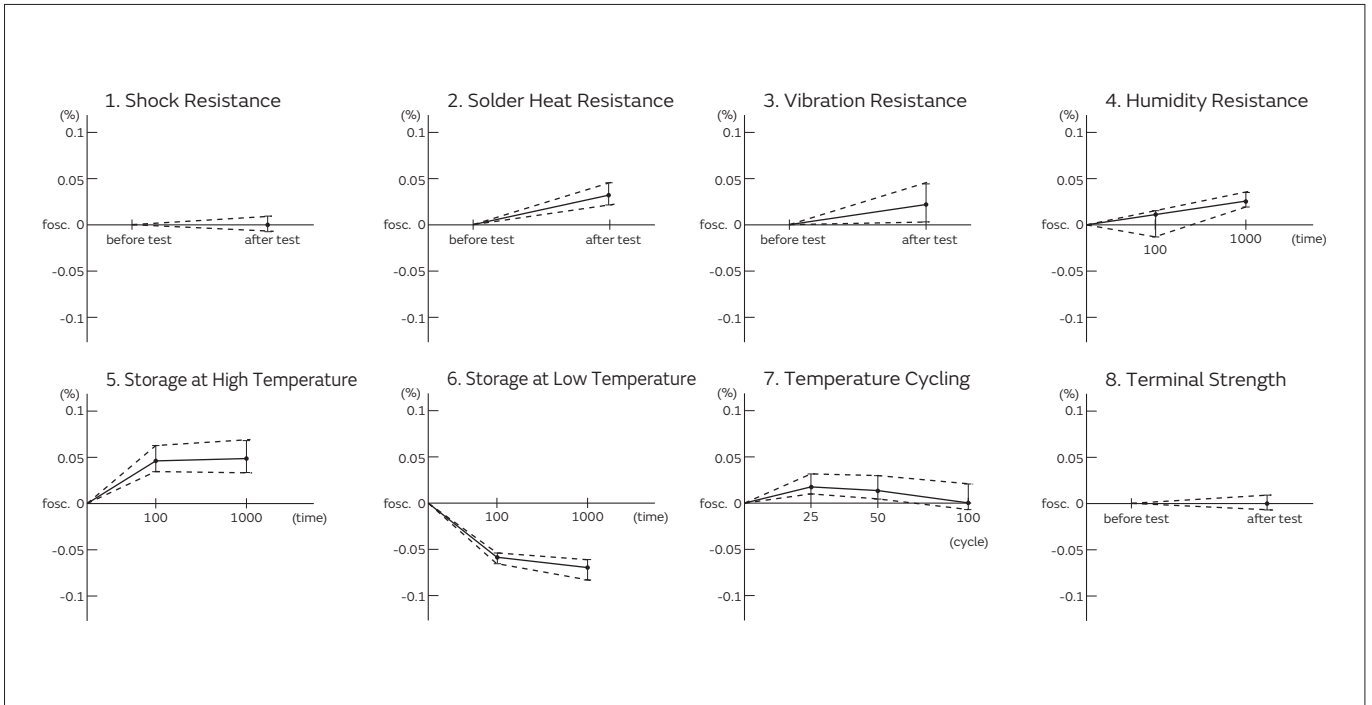
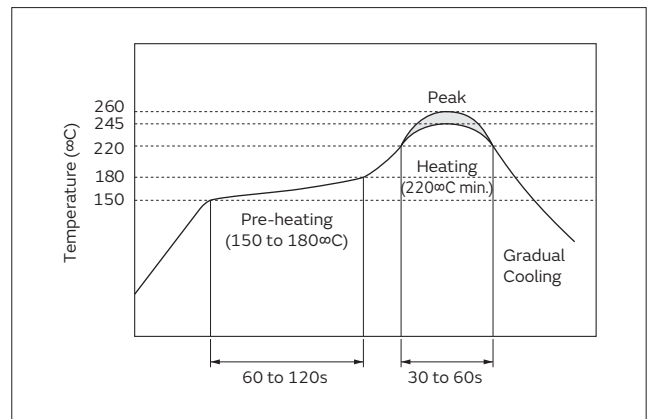

Fig. 3-2 General Changes of Oscillation Frequency in Each Reliability Test (CSTLS4M00G53-B0)
Fig. 3-3 Reflow Soldering Profile for MHz Band Chip CERALOCK
Fig. 3-2 shows the changes of oscillation frequency in each test, the table on the next page shows the criteria after the tests, and Fig. 3-3 shows the reflow soldering profile.
2. Soldering Heat Resistance	Lead terminals are immersed up to 2.0 mm from the resonator's body in solder bath of [c], and then the resonator shall be measured after being placed in natural condition for 1 hour.* ¹ Reflow profile show in Fig. 3-3 of heat stress is applied to the resonator, then the resonator shall be measured after being placed in natural condition for 1 hour.* ²